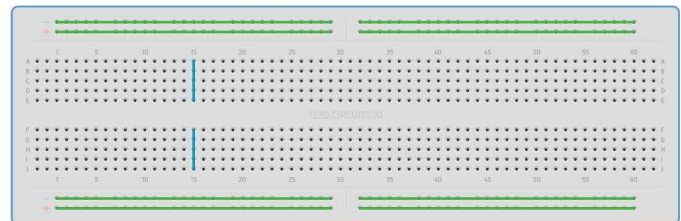

Fig. 1.1
**Problem 1.1.** Plug the display to the breadboard in Fig. 1.1